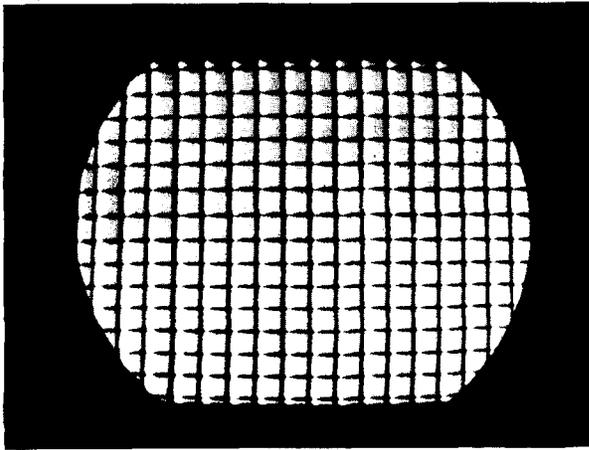

Figure 28. High-Frequency Phase Shift as Indicated on Cross-Hatch Pattern.
3. Phase Distortion. Black vertical lines with a white trailing edge would indicate phase distortion in the receiver. See Figure 28. This may be caused by improper RF-IF alignment or excessive high frequency phase shift in the video amplifier.